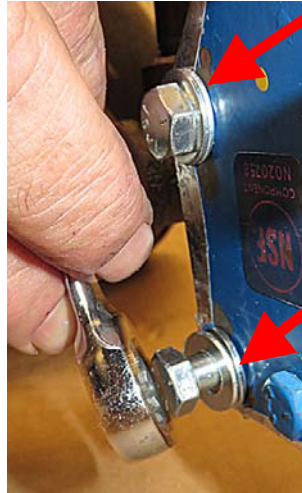

Figure 18
21. Reinsert the two (2) bolts into the filter pump and adding two (2) 8090104 washers to each bolt before tightening. Torque to 15 foot lbs. Do **NOT** overtighten (see Figure 18).